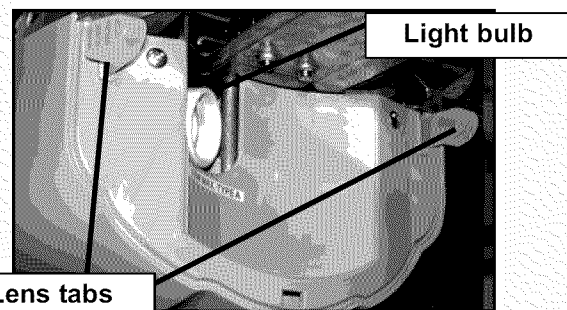

FIG. 9-1 Slide lens onto motor cover.
- Line up lamp lens tabs on power head with corresponding slots in lens (Fig. 9-1).